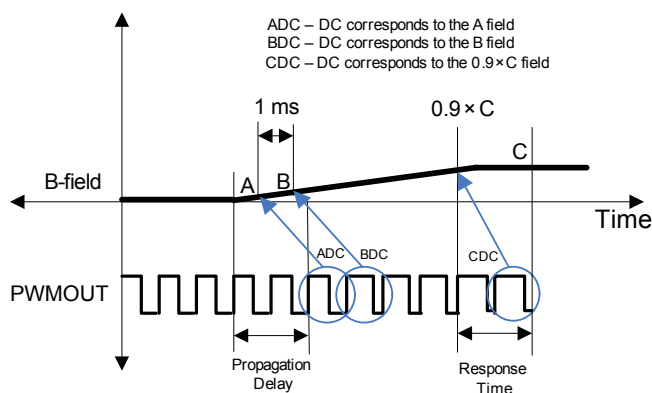

Figure 3. Definition of Response Time for PWM output
**Response Time** The time interval,  $t_{RESPONSEPWM}$  or  $t_{RESPONSEVOUT}$ , between: a) when the applied magnetic field reaches 90% of its final value, and b) when the sensor IC reaches 90% of its output corresponding to the applied magnetic field (PWM duty cycle or analog  $V_{OUT}$ ). Figure 3 illustrates an example with the PWM output. Response time is conceptually the same for the analog output.